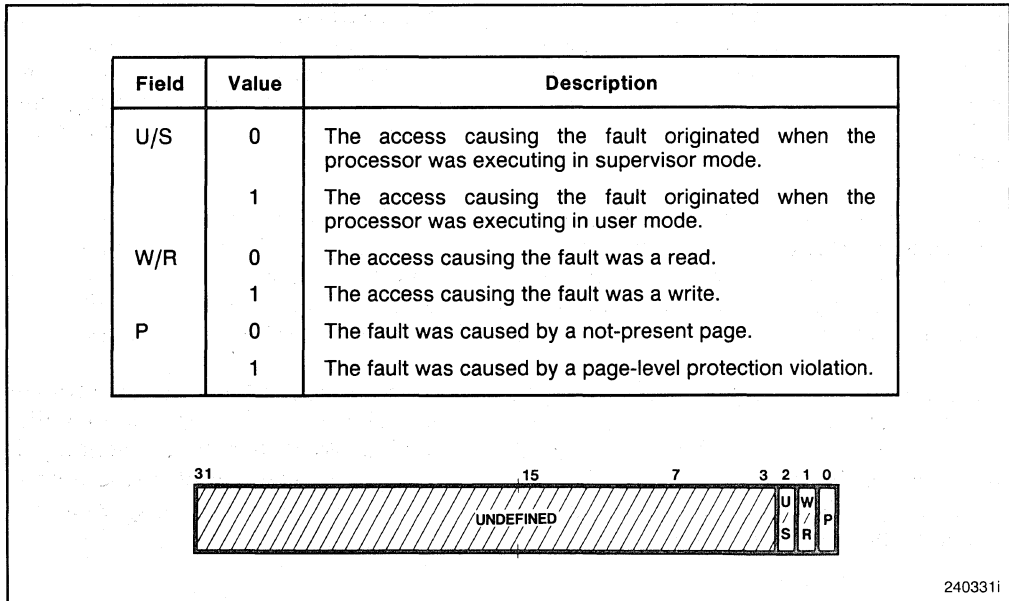

Figure 9-7. Page Fault Error Code
- An error code on the stack. The error code for a page fault has a format different from that for other exceptions (see Figure 9-7). The error code tells the exception handler three things: